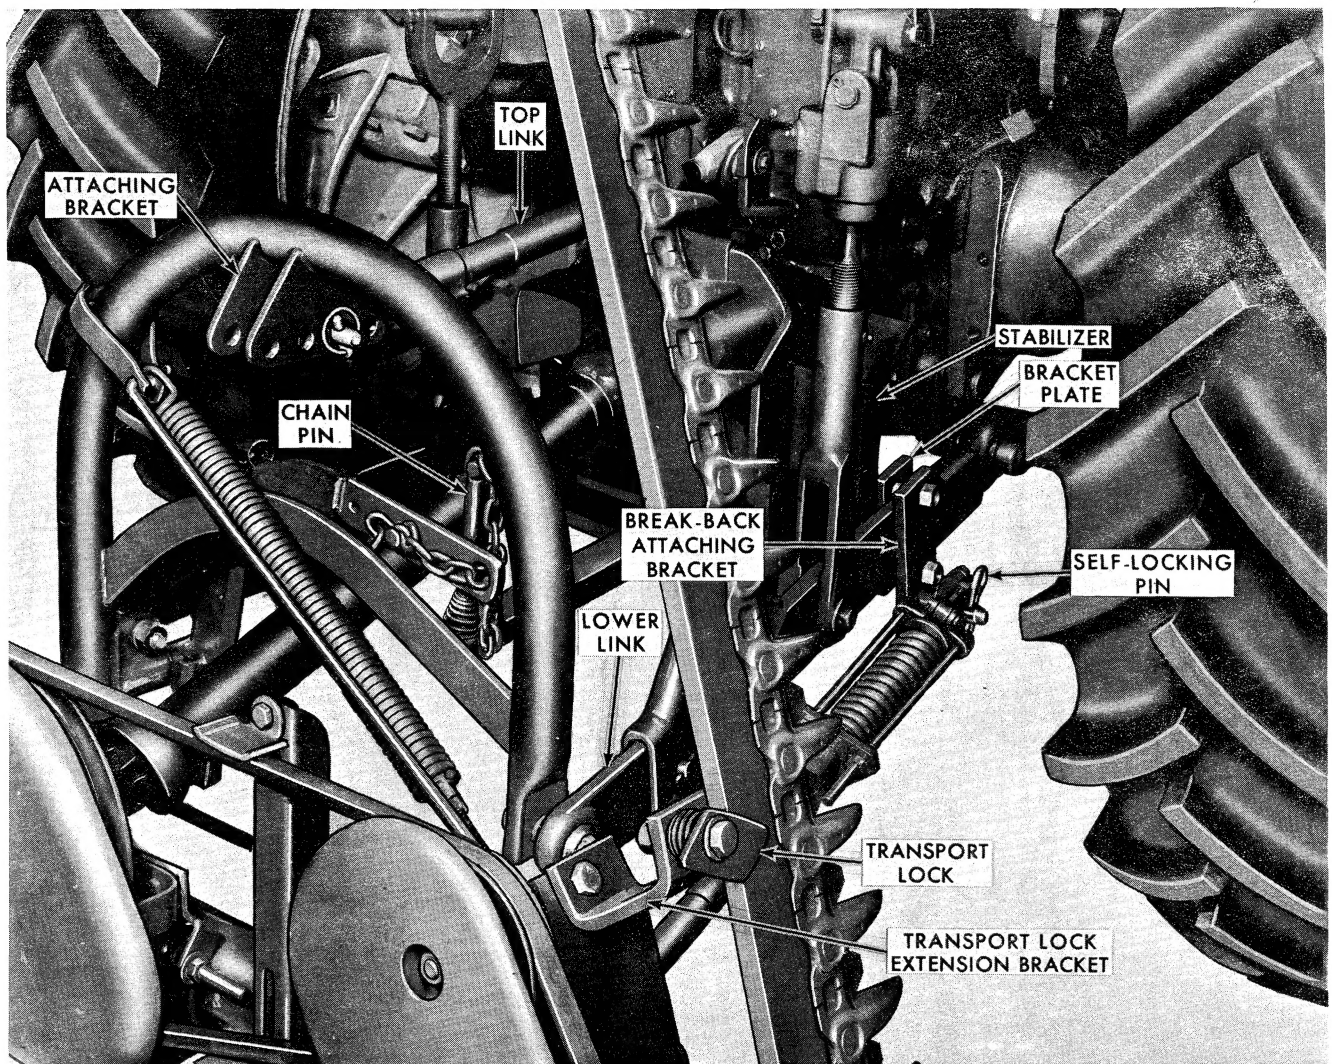

Figure 3
1. On Series 6000 Tractors, position both stabilizers, Figure 3, in the middle set of holes.
11. Remove the transport lock from the mower and install a transport lock extension bracket in its place, as shown in Figure 3. Then, attach the transport lock to the extension bracket.
1. Raise the cutter bar to the transport position and secure with the transport lock as shown in Figure 3.